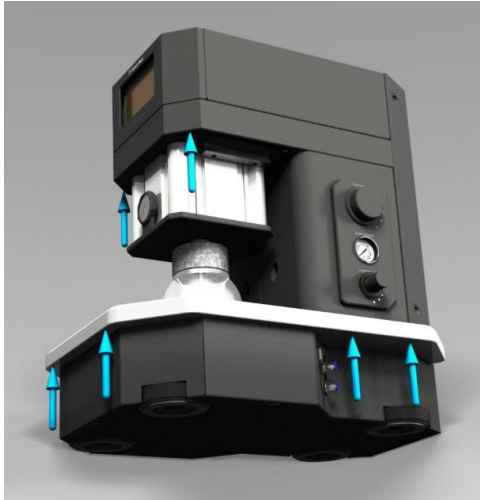

Figure 1: Lifting Points
- Very carefully lift the instrument out of its case and place it on a firm flat surface. To avoid damaging **TruBurst³**, lift the instrument using only the lifting points indicated in Figure 1, below.
Figures 1 to 3 shown with Perspex Safety Guard removed for clarity.